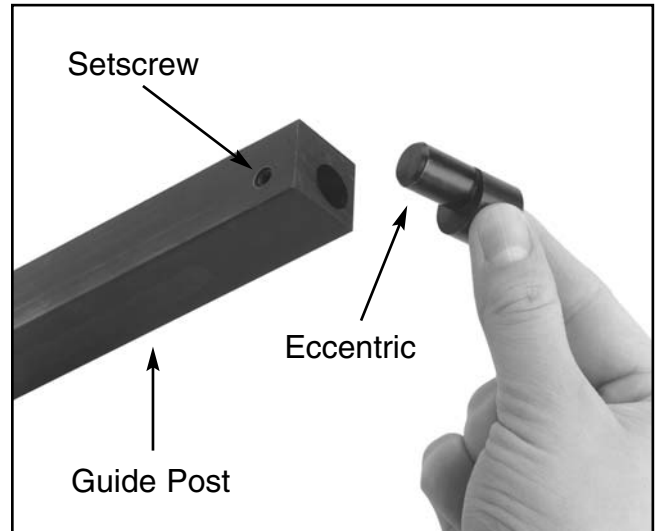

Figure 24B. Eccentric at bottom of guide post.
4. Note where the blade is in the guide block holder. It should be roughly centered. If it is not centered, shift the eccentric at the bottom of the guide post (shown in **Figure 24B**). This is done by loosening the setscrew on the guide block assembly and pulling it off the guide post. The setscrew on the back of the guide post will allow you to loosen the eccentric so you can center the assembly to the blade.